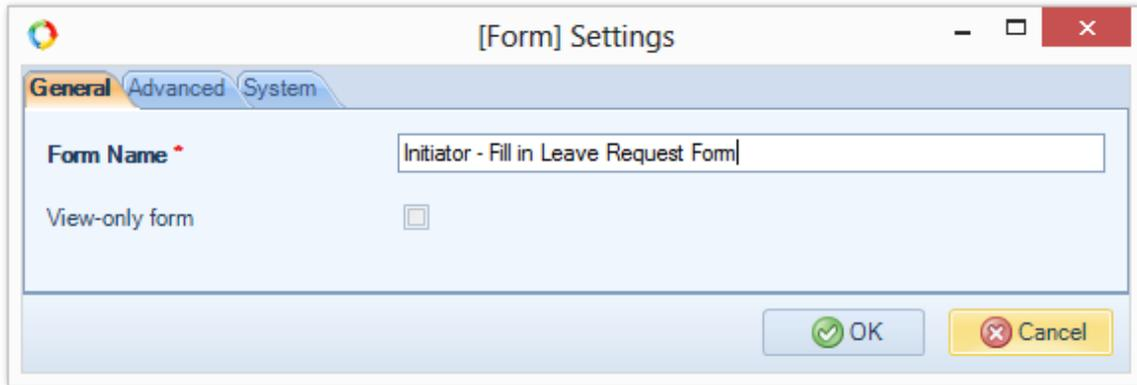

Fig. 158. The Form Settings window → the General tab
- edit the form name (Fig. 158);
- select **View-only** option (no editable fields) (Fig. 158);